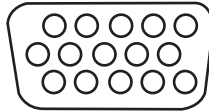

Figure 4: Analog VGA Connector
There is one (1) 15-pin D-sub connector (Figure 4) for one analog VGA input. Refer to Figure 2, item B.